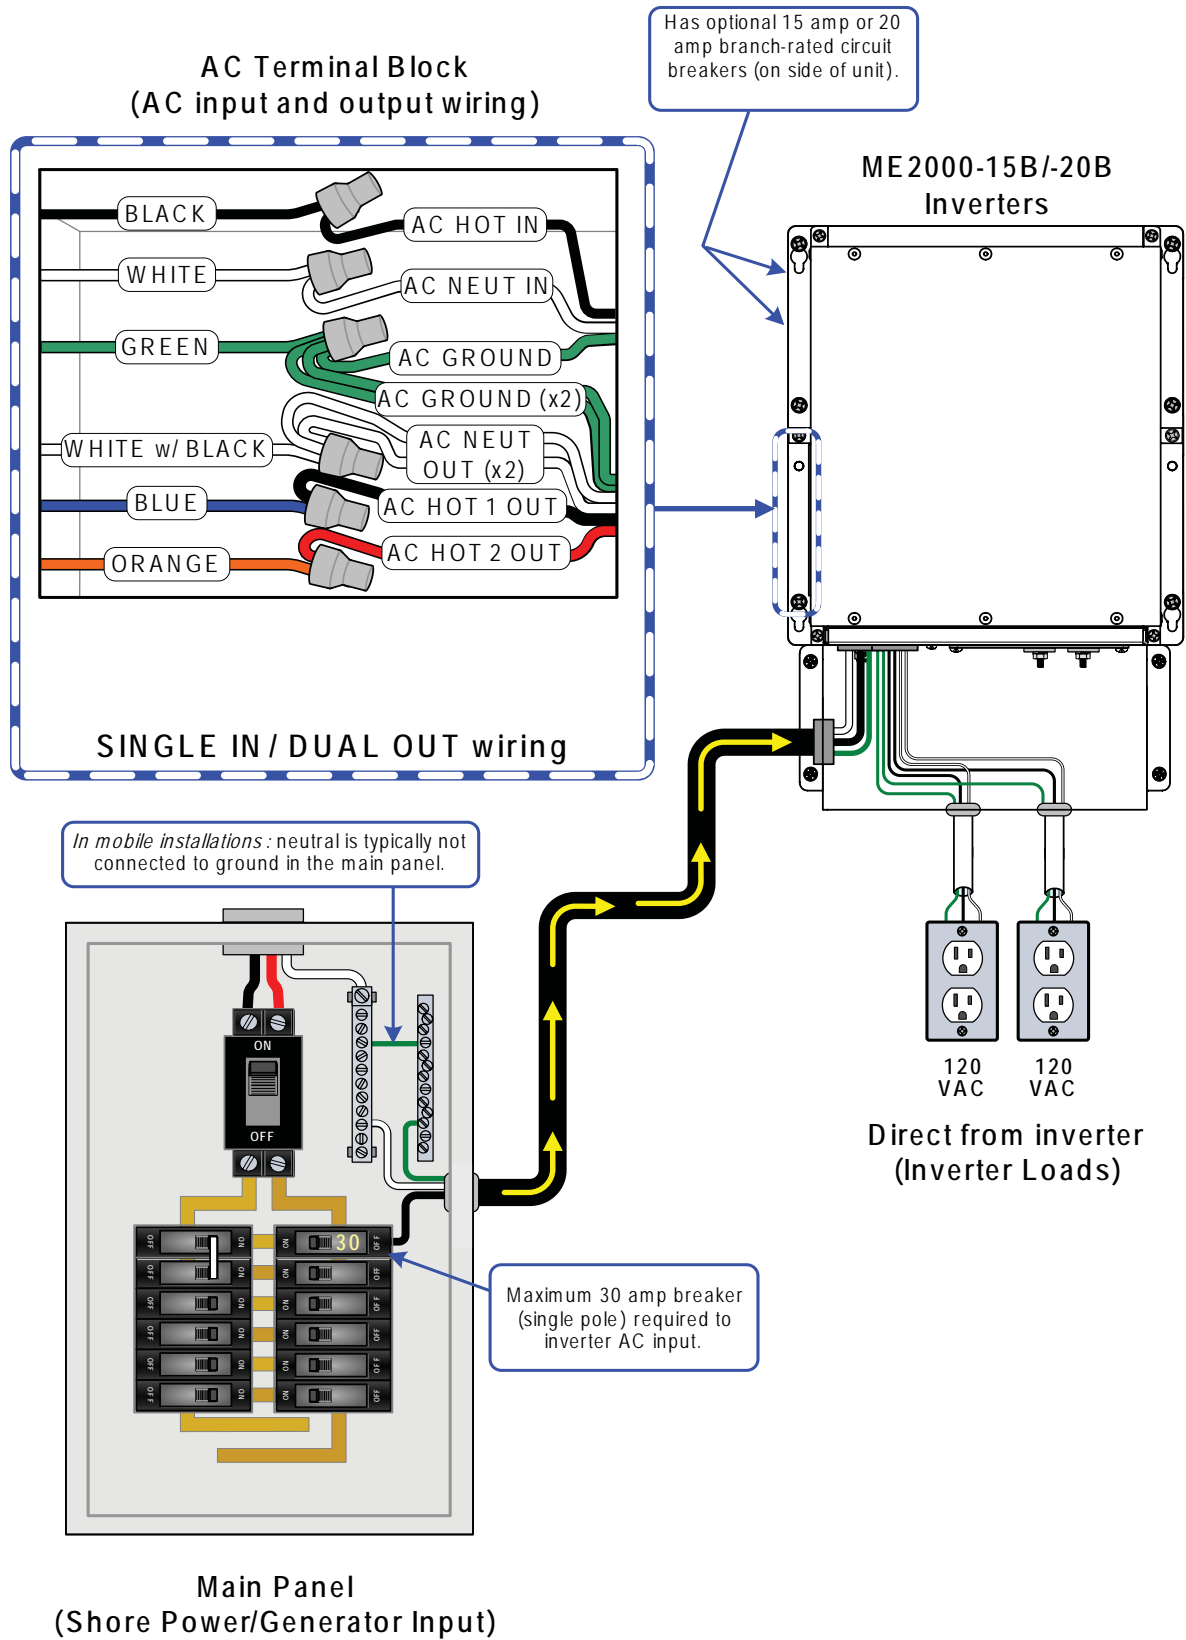

Figure 2-17, AC Wiring for Single In - Dual Out (ME2000-15B/-20B models) Configurations
Info: Depending on the AC wiring configuration, you may need to connect a wire to the inverter's HOT 2 OUT (orange) wire. (See Figure 2-17)
3. Connect the inverter's NEUTRAL OUT (white w/black) wire to the sub-panel's neutral busbar (or to the neutral connections on the outlets, if using the output breaker versions - see Figure 2-17) using field wiring leads.